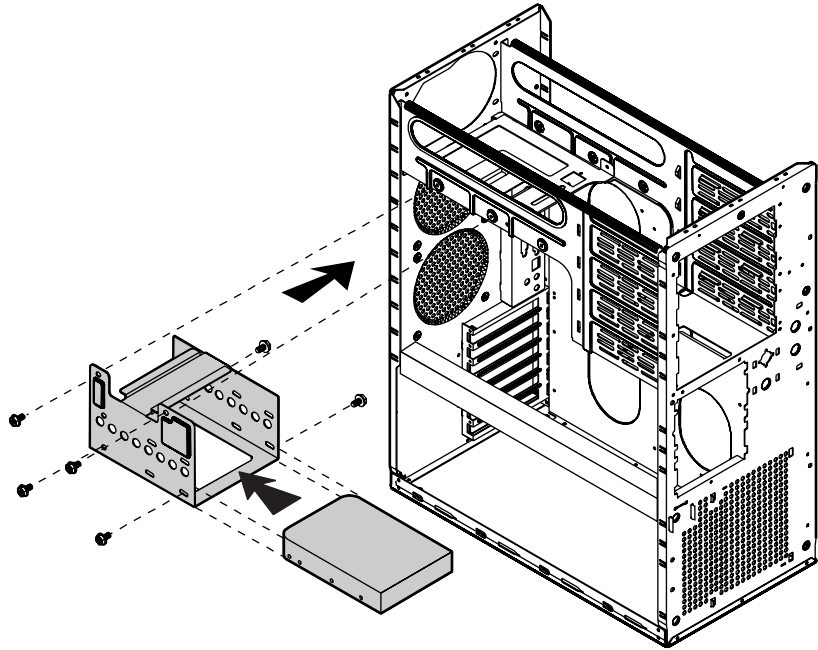

Figure 32: Installing a Hard Drive in the Rear Drive Bay
7. Secure the new hard drive to the mounting bracket using the screws you removed in Step 6 (see Figure 32).
- 8.** Place the hard disk assembly into the chassis and secure it to the chassis using the screws you removed in Step 5 (see Figure 32).